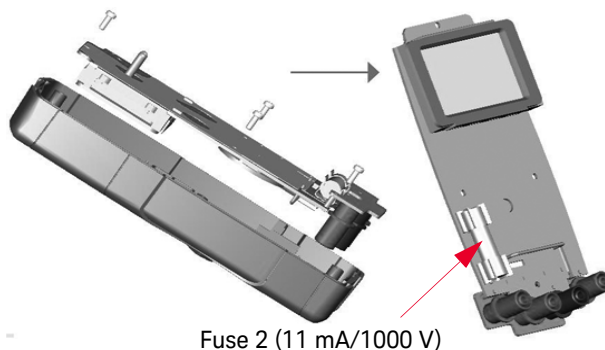

Figure 4-3 Fuse 2 replacement
- 5 If you want to replace a defective Fuse 2, remove Fuse 1 then loosen the four screws (shown in Figure 4-3) to lift and remove the circuit board from top case.
- 6 Gently remove the defective Fuse 2 by prying one end of the fuse loose and removing it out of the fuse bracket, see Figure 4-3.